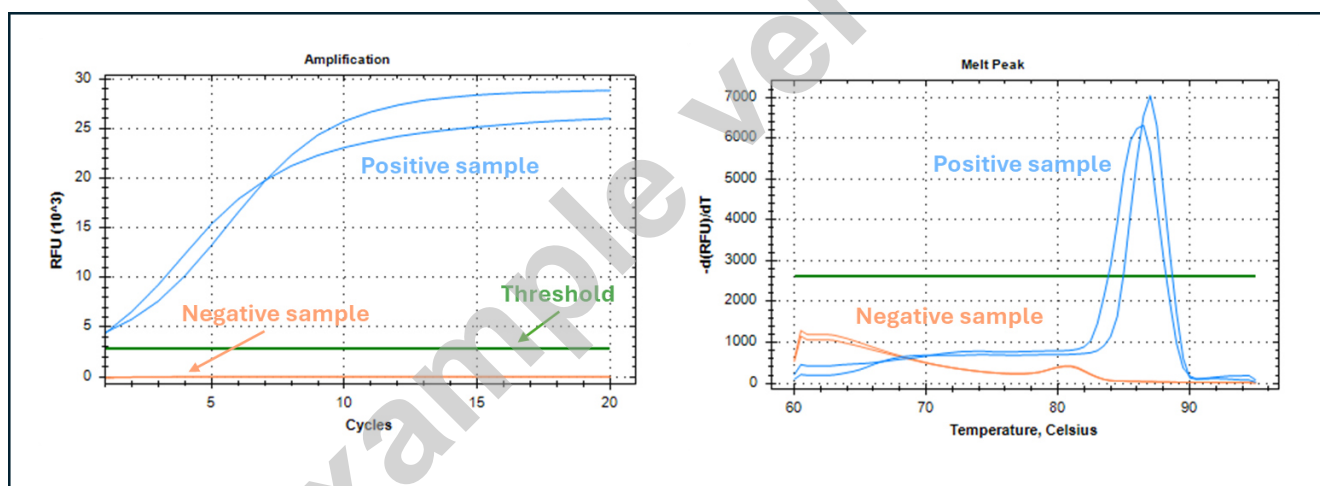

Figure 5: Schematic of amplification and Melt Peak; negative samples are highlighted in orange, positive samples with Ct = “N/A” in blue.
- Recommendation 1: If the Ct of the sample is “N/A”, check the run evaluation settings to verify that the reaction is not oversaturated (the signal of sample would be above the threshold value from the beginning of the reaction). However, if such sample does not show a specific Tm value according to melting curve analysis (approx. 86  $\pm$  1,5  $^{\circ}$ C) see Figure 5, discard the sample from the sequencing.